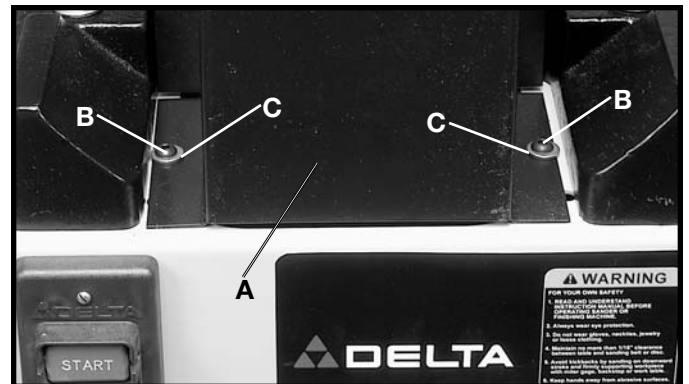

Fig. 8
Assemble the belt guard (A) to the stand, as shown in Fig. 8. Align the holes in the belt guard with the holes on the machine. Place 1/4" flat washer on a 1/4-20-1/2" round head screw, insert screw through hole in belt guard and hole in machine. Thread a 1/4-20 hex nut onto screw and tighten securely. Repeat this process for the remaining hole.